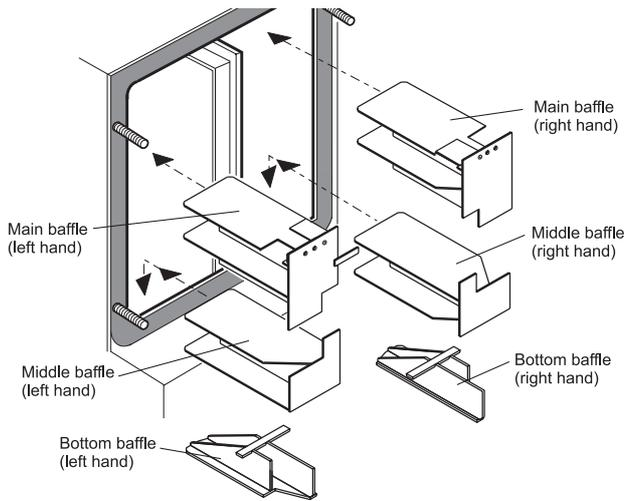

Fig. 24 - Combi 90 V3 baffle positions
- 12 After allowing the burner to run for 20 minutes - Check the smoke number, if satisfactory check the CO₂ level. Set the CO₂ to the value given in Section 4.3, 4.4 or 4.6. for the boiler and fuel used. Adjust the burner air regulator, see Fig. 24, turning the screw anti-clockwise closes the damper and increases CO₂ level, turning the screw clockwise opens the damper and reduces CO₂ level. Re-check the smoke number if the air damper has been moved.
See Fig. 24, 25, 26 or 27
- 2 Remove the baffles as shown in Fig. 24, 25, 26 or 27.
- 6 Replace the baffles, ensuring they are correctly fitted. See Fig. 24, 25, 26 or 27.